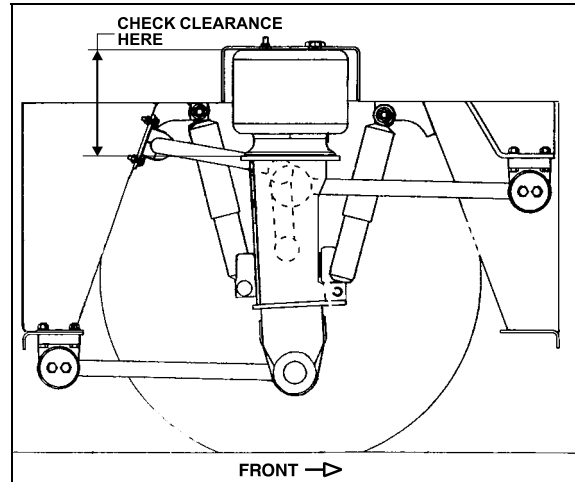

FIGURE 43: TYPICAL AIR SPRING CLEARANCE, FRONT I-BEAM AXLE
1. With the vehicle at normal operating air pressure, check the air spring clearance as illustrated in figure 43. This clearance should be $12 \pm \frac{1}{4}$ " (305 ± 6 mm) for the front